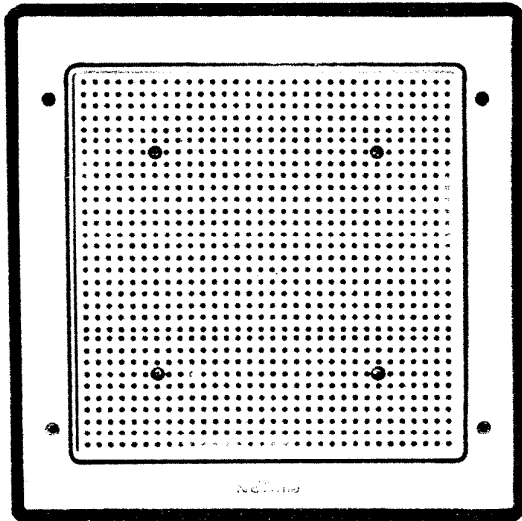

Fig. 13. Model 2014 patio speaker.
3. Model 2014 8" speaker (Fig. 13)
2. Align the four holes in the front panel with the four holes in the 2414 "A" frame and fasten in place with the screws provided (Fig. 13).